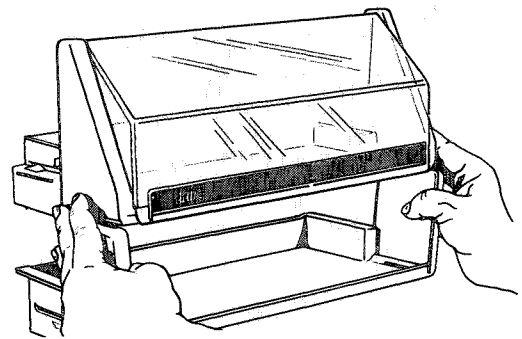

Figure 14
d. Flex out slightly to release second serving shelf tab from dairy module slot. See Figure 14.